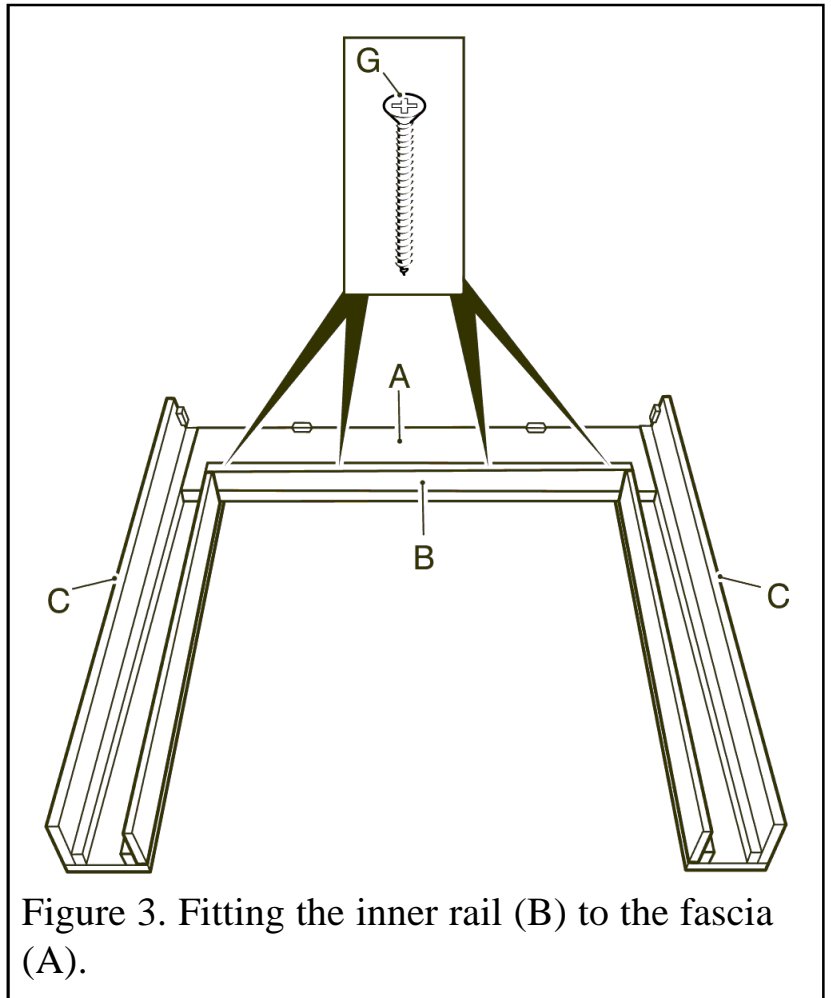

Figure 3. Fitting the inner rail (B) to the fascia (A).
- Locate the inner rail (B) on top of the inner legs as in figure 3.
- Secure to the fascia (A) using four (G) screws.